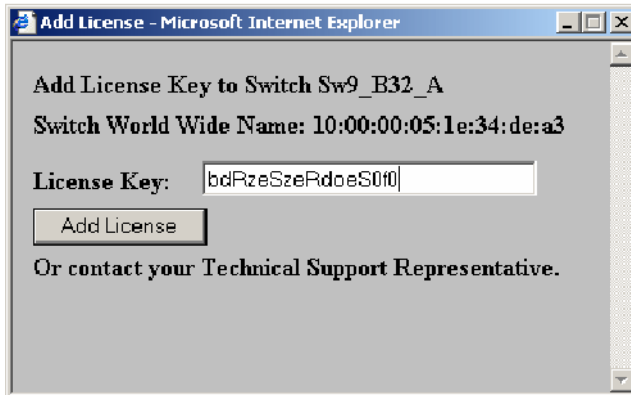

Figure 5-29 Adding a License Key
5. The Add License dialog box appears and you should type or paste the Feature Activation License Key in the field (see Figure 5-29 on page 89).